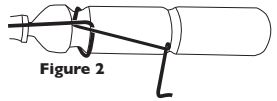

Figure 2
- While inserting the battery, rotate the battery anti-clockwise. The wire of the front loop will ride the battery head and fits itself well inside the neck of the battery, (Figure 2)